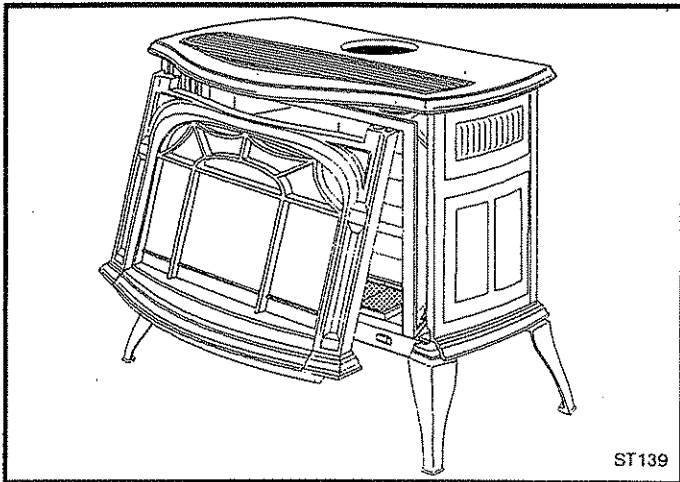

Fig. 12 Remove the Front Plate.
1. Remove the Front Plate by grasping one side and the bottom and lifting the plate up as a unit while swinging the bottom out and away from the stove body. (Fig. 12) **Remove the cardboard packing material from the top of the firebox.**